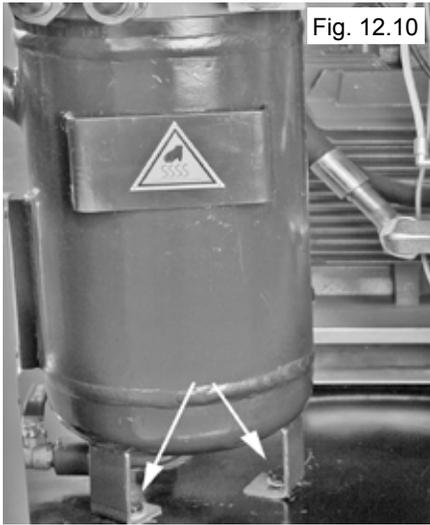

Fig. 12.10
2. Unbolt the Oil Separation Tank mounting bolts. (See Fig. 12.10 )